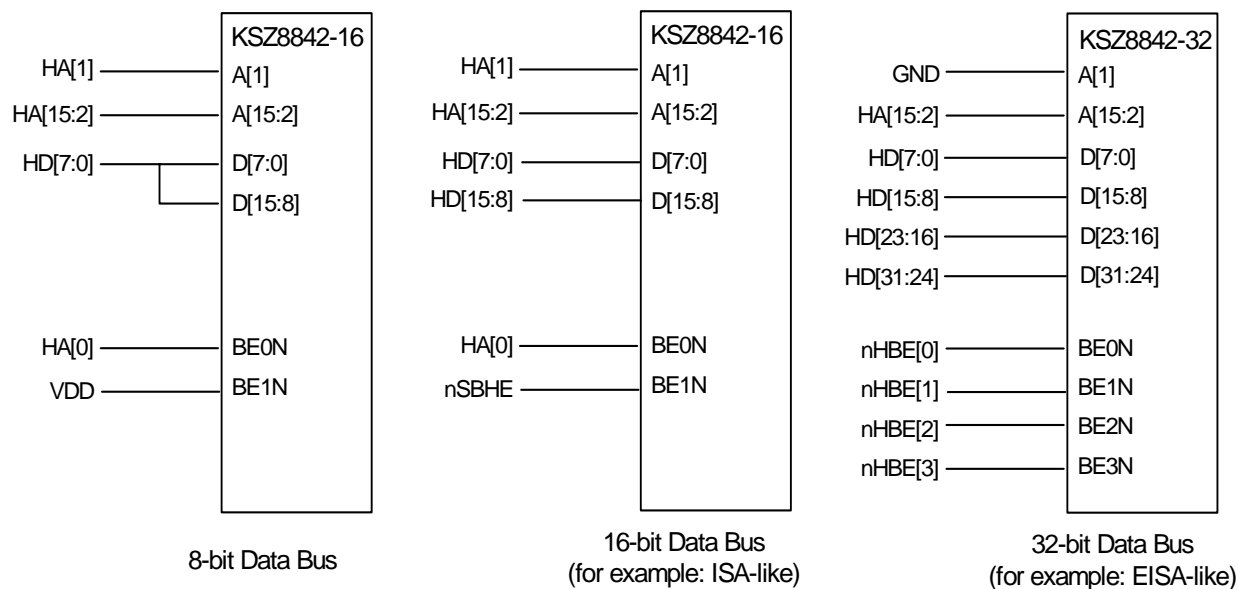

Figure 13. KSZ8842M 8-Bit, 16-Bit, and 32-Bit Data Bus Connections
Figure 13 shows the connection for different data bus sizes.
2. Internal byte swapping is not implemented and word swapping is supported internally. Refer to Figure 13 for the appropriate 8-bit, 16-bit, and 32-bit data bus connection.